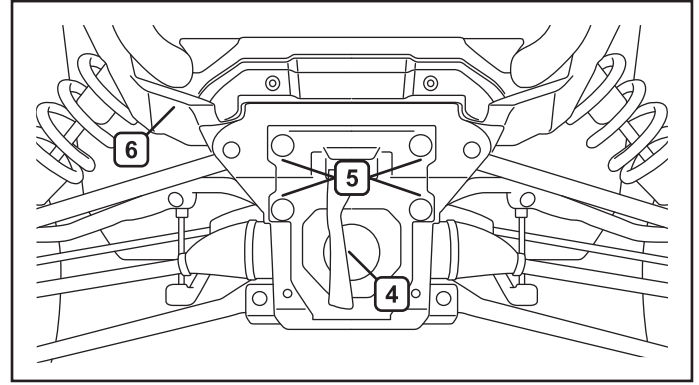

Figure 2.
2. Remove tow strap bracket (4) by removing four bolts (5). See figure 2.
3. Remove the front fascia (6) by removing two plastic rivets (7) and two bolts (8) as shown in figures 2, 3 and 4.